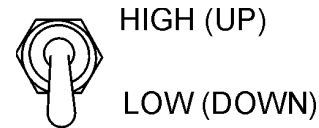

Figure 63. Engine Speed Switch (LOW)
2. Turn the speed switch (Figure 63) to 'LOW' setting.